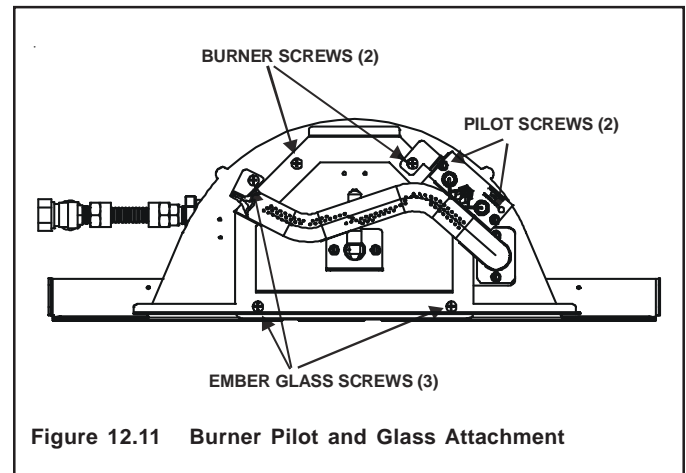

Figure 12.11 Burner Pilot and Glass Attachment
- Remove logs and burner from appliance, by removing two screws holding the pilot in place, and two screws holding the burner in place (see Figure 12.11).